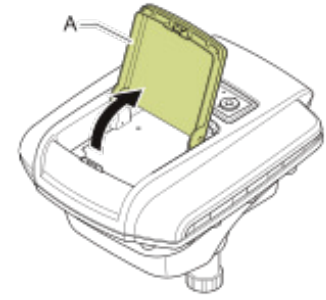

Figure 2.14: Cover A.
- Open cover A as shown in Fig.2.14.